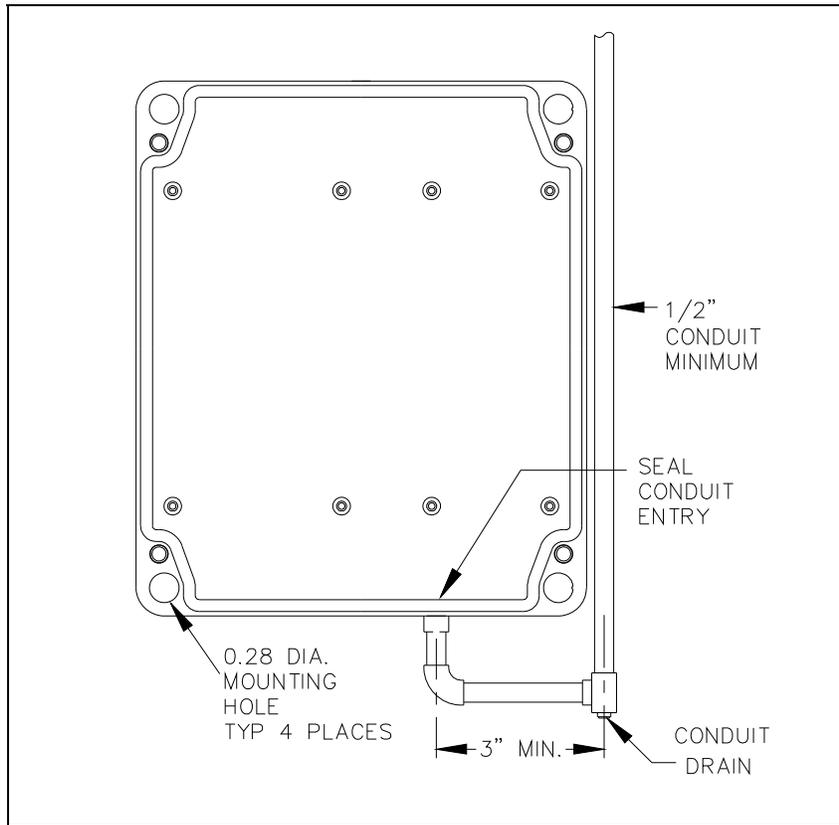
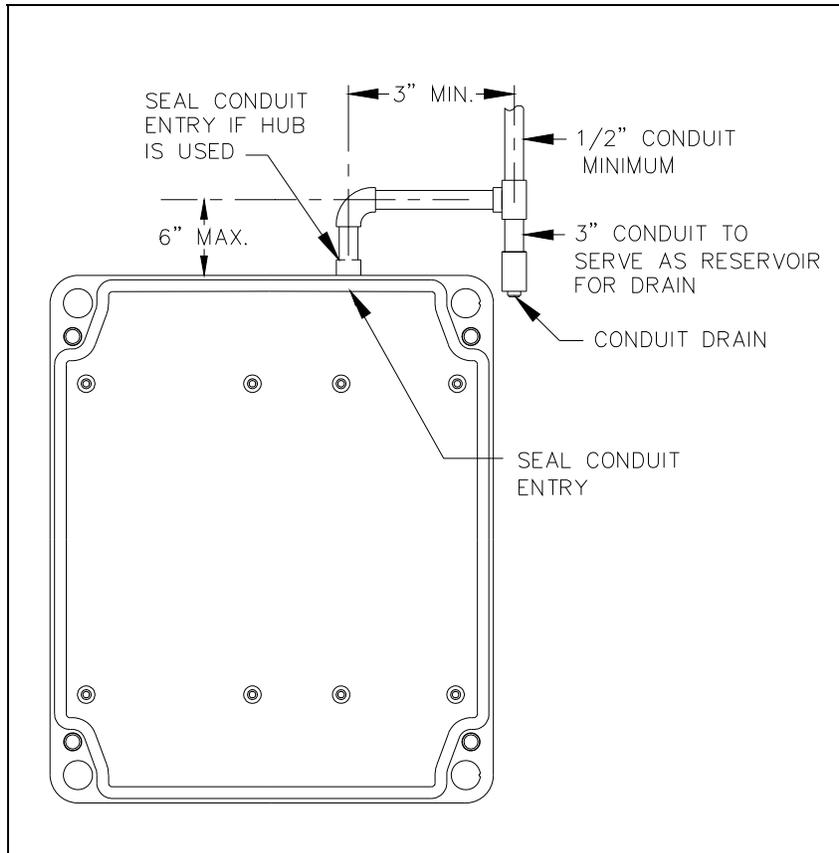

Figure 1. Bottom entry conduit installation details (RECOMMENDED for non-metallic enclosures)
Figure 2. Top entry conduit installation details (NOT RECOMMENDED)
Conduit Installation Details (Applicable to Models 246-001 and 256-001) GAI-Tronics recommends installing telephone lines in conduit to protect against accidental damage and vandalism. The following measures help prevent moisture from entering the enclosure (see Figure 1 and Figure 2):
5. Install a conduit fitting in one of the ½-inch NPT conduit entrances provided at both the top and bottom of the unit and insert the conduit into the fitting (see Figure 1).